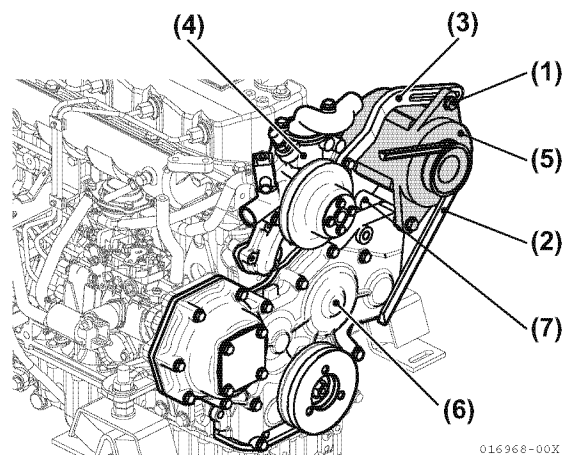

Figure 5-186
- (b) Adjust V-belt tension with the adjuster, and tighten the mounting bolts (Figure 5-186).